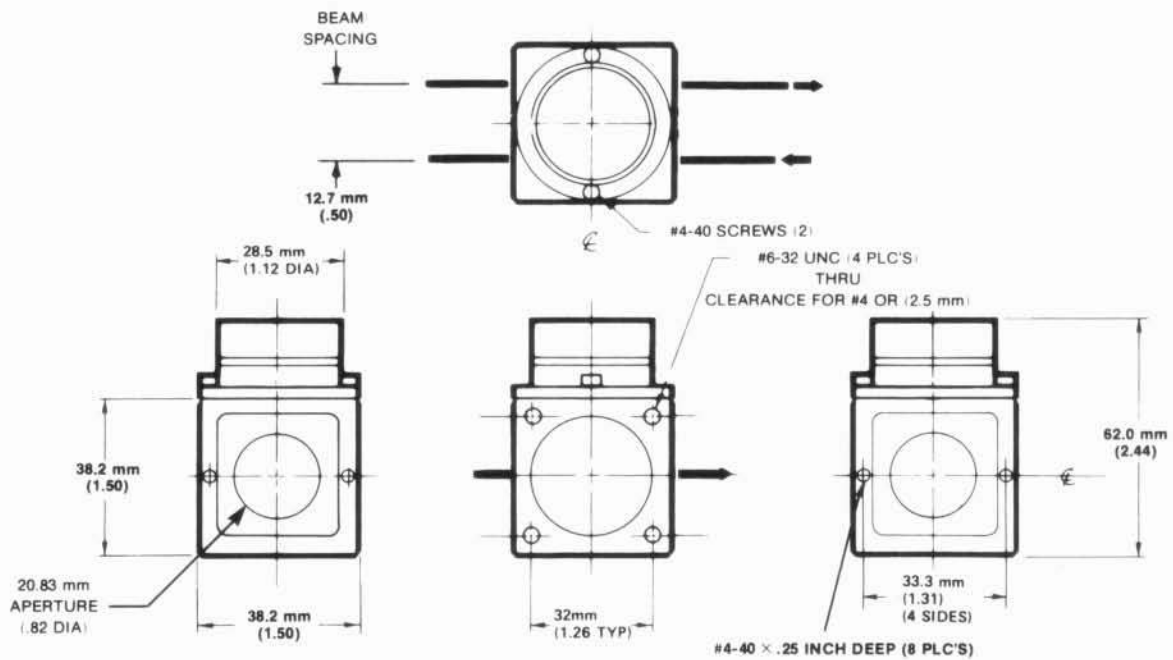

Figure 8-3. HP 10702A Linear Interferometer, Dimensions
**Dimensions:** See Figure 8-3.